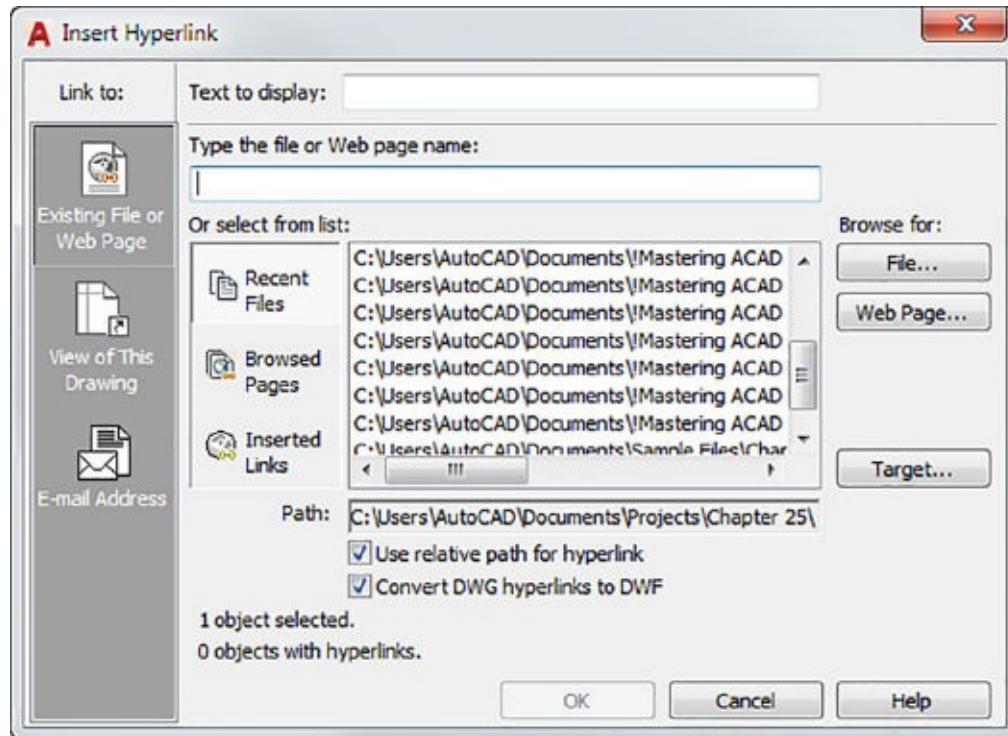

FIGURE 25.24 The Insert Hyperlink dialog box
4. When you're done, press **↵**. The Insert Hyperlink dialog box opens (see Figure 25.24).
1. Select and right-click the object whose link you want to edit, and then choose Hyperlink > Edit Hyperlink from the context menu. Doing so opens the Edit Hyperlink dialog box, which offers the same options as the Insert Hyperlink dialog box (see Figure 25.24, earlier in this chapter), with the addition of the Remove Link button.
You were introduced to the Insert Hyperlink dialog box, shown in Figure 25.24, in the previous exercises. Let's take a moment to study this dialog box in a little more detail.
Recent Files Displays a list of recently edited AutoCAD files, as illustrated in Figure 25.24. You can then link the object to a file in the list by clicking the filename.